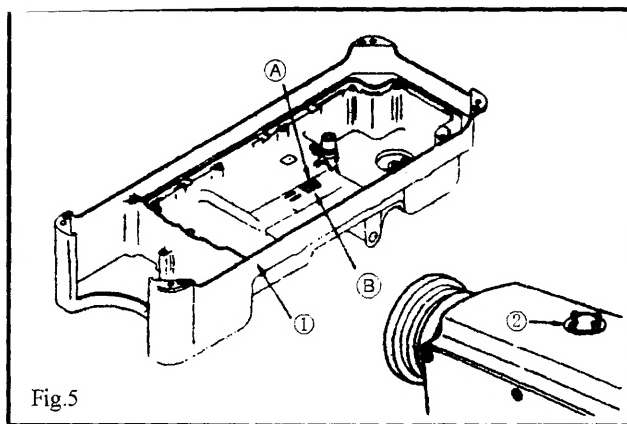

Fig.5
1. Information on lubrication (Fig.5)